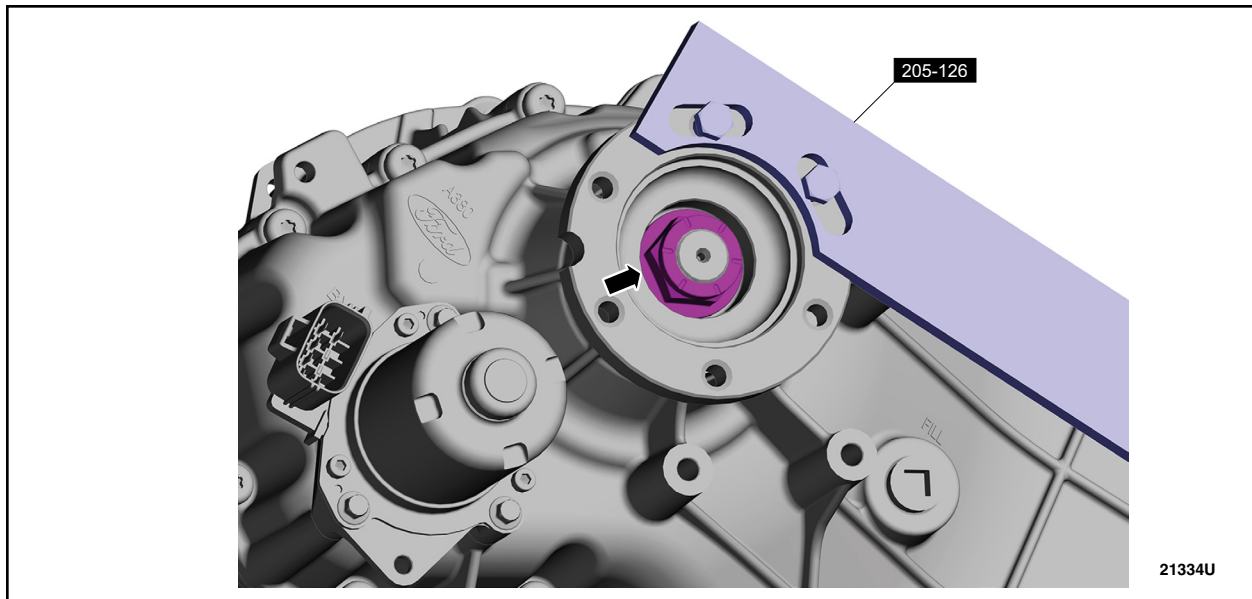

FIGURE 20
31. Use Special Service Tool (205-126 Holding Fixture Drive Pinion Flange), to install the new output shaft flange nut. See Figure 20.